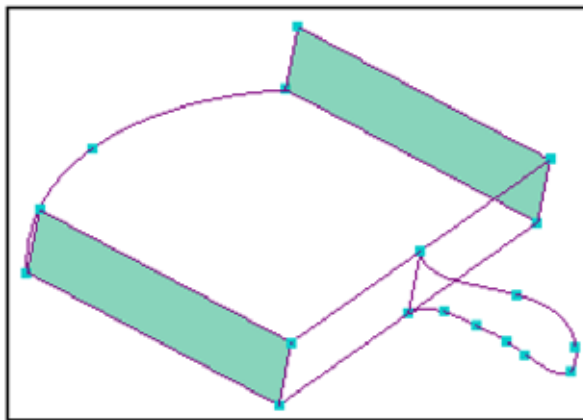

Figure 59: Dust pan geometry model
- Notice that the spline is created. The model should look like Figure 59.